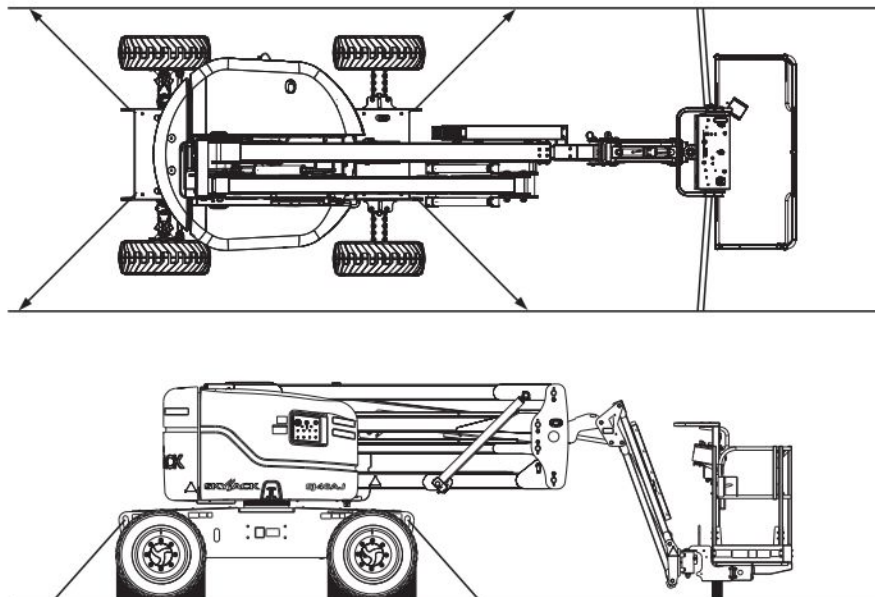

Figure 3-8. Tie-down Points
6. Anchor down aerial platform to transport surface using tie-down points (refer to Figure 3-8).